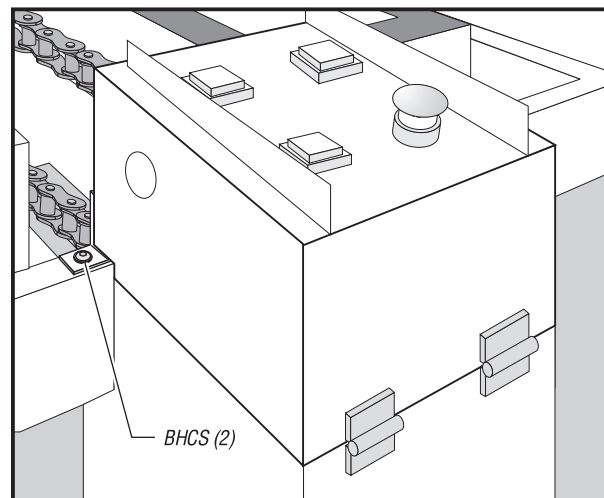

Figure 11.22 APC operator's panel cover.
16. Open the hinged APC operator's panel cover by removing the two BHCS (see Figure 11.22).